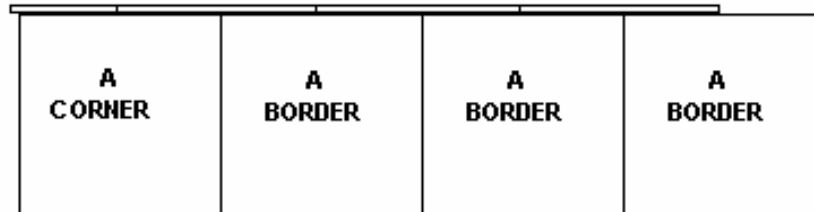

Figure 9
9. Next take another transition and lock the next two panels (Figure 9).